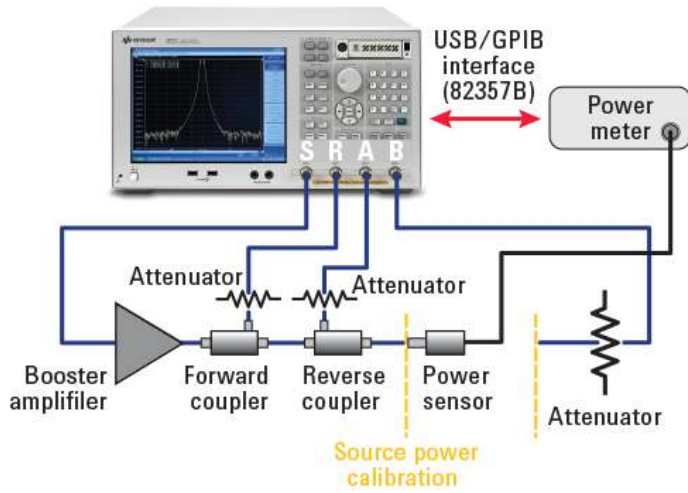

Figure 11. Source power calibration with power meter & sensor
- (4) **Connect the power meter and sensor and perform source power calibration (Figure 11)**